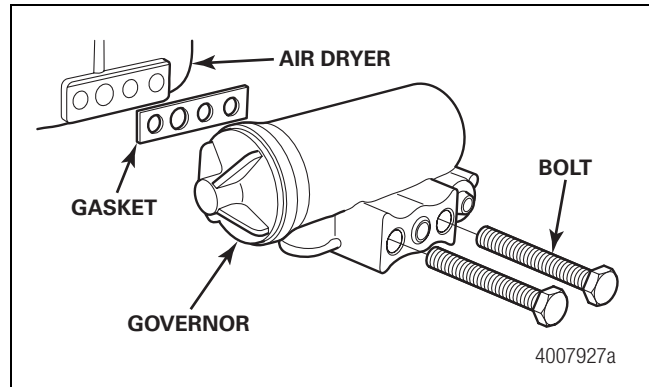

Figure 3.10
1. Remove the mounting bolts, governor and gasket. Discard the gasket. Figure 3.10.